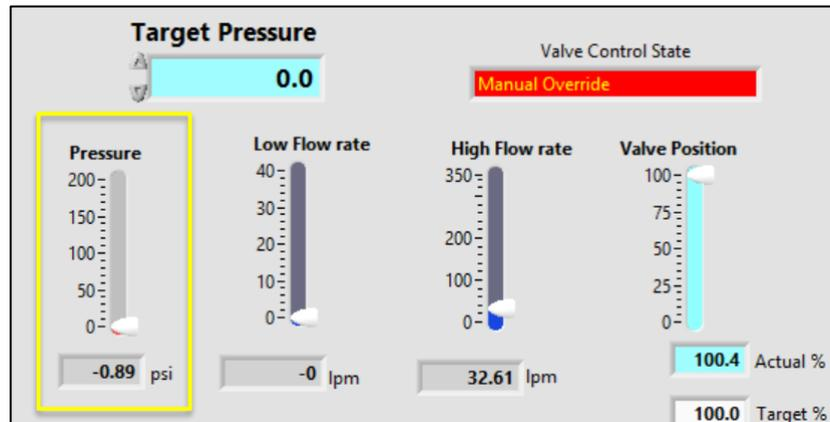

Figure 4: Example of pressure reading on LabView when there is no pressure on the system and only the high flow valve open.
7. Ensure that the valve (either high-flow or low-flow depending on the flow rate) is fully open and the other valve is completely closed. The pressure reading shown in LabView should be close to zero (refer to Figure 4). It is ok if the pressure is not very close to zero as some pumps with high flow rates will not be able to reach zero even with a fully open valve. If there is uncertainty about the pressure reading, reach out to the Lab Manager.
10. For simulating the next head step, slowly close the valve while paying close attention to the pressure gauge in LabView (shown in Figure 4). The pressure gauge will be fluctuating, but ideally, the tester should aim to have the fluctuations around (above and below) the set point, if possible.